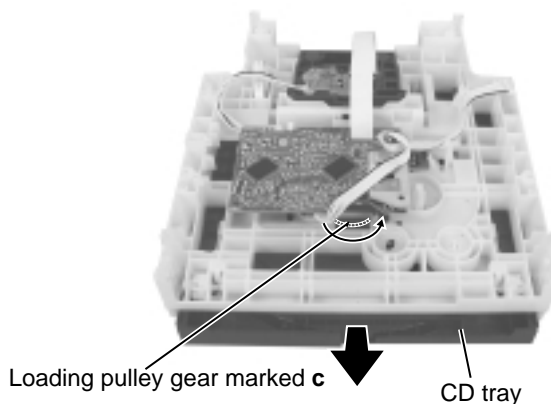

Fig.27
■Removing the CD tray (See Fig.27 to 29)